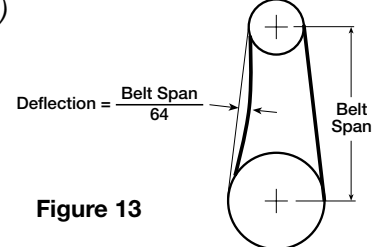

Figure 13
11. Belt tension should be adjusted to allow 1/64 inch (0.397 mm) of deflection per inch of belt span. For example, a 15 inch (381 mm) belt span should have 15/64 inch (5.95 mm) (or about 1/4 inch (6 mm)) of deflection with moderate thumb pressure at mid-point between pulleys. See Figure 13.